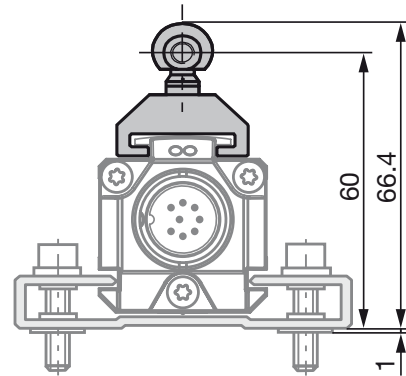
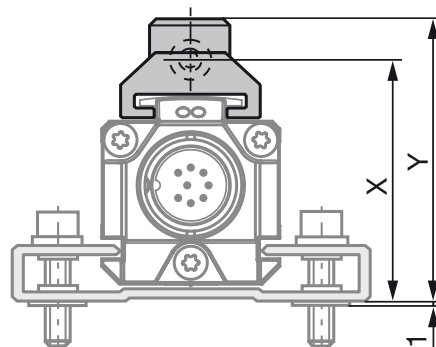
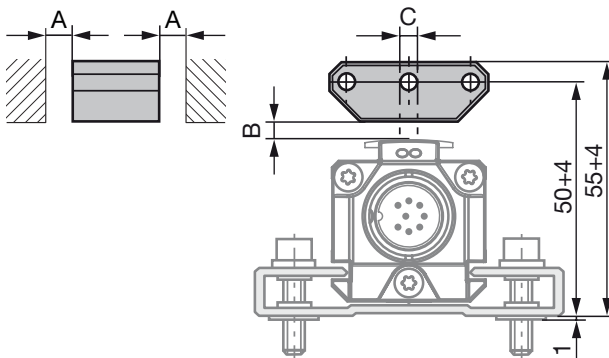
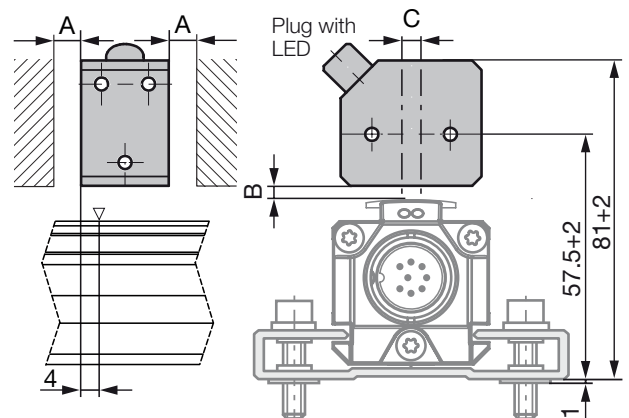

Fig. 4-1: Dimensions and distances with BTL5-F-2814-1S magnet
Fig. 4-3: Dimensions and distances with BTL5-M/N-2814-1S magnet
Fig. 4-4: Dimensions and distances with BTL5-P-3800-2 magnet
Fig. 4-8: Dimensions and distances with BTL5-P-4500-1 electromagnet (24 V/100 mA)
i The micropulse transducer in profile housing is suitable both for floating, i.e. non-contacting magnets (see Fig. 4-4 to Fig. 4-8) and for captive magnets (see Fig. 4-1 to Fig. 4-3).
- Ensure that the distance A between parts made of magnetizable material and the magnet is at least 10 mm (see Fig. 4-4 to Fig. 4-8).
- Maintain the following values for distance B between the magnet and transducer and for center offset C (see Fig. 4-4 to Fig. 4-8):
i The measuring range is offset by 4 mm towards the transducer plug (see Fig. 4-8).